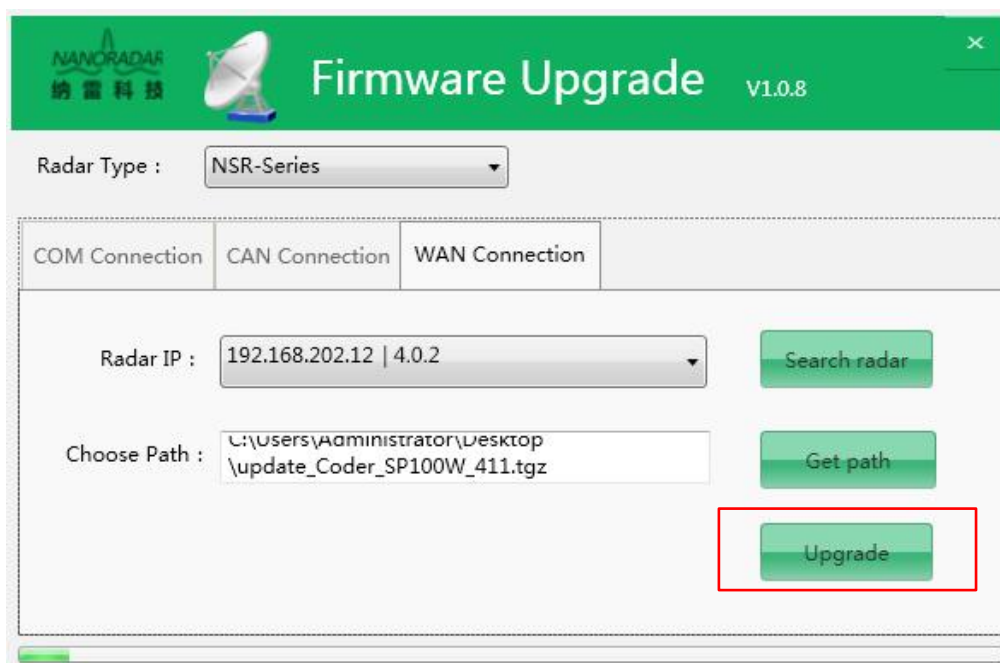

Figure 29 Upgrade the firmware
e) After dozens of seconds, it will pop up "Radar upgrade successful" window, click "ensure " button, upgrade work is completed, as figure 29.